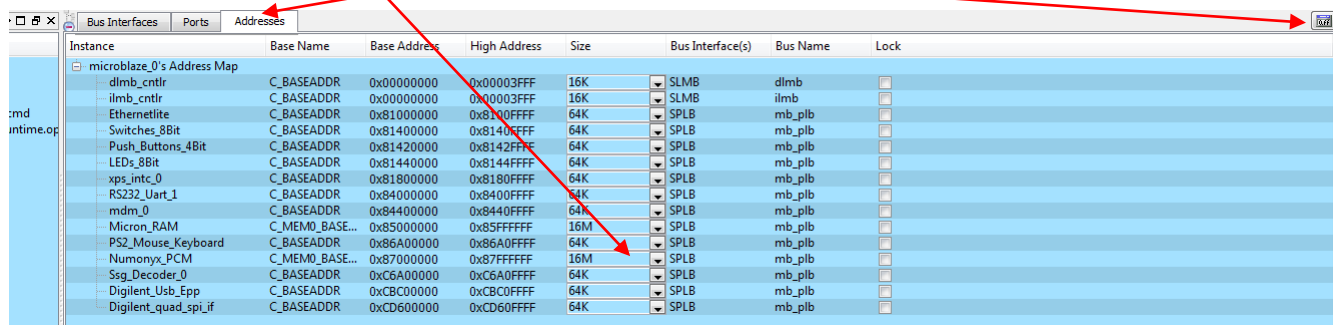

Figure 3. Changing the size of the Numonyx\_PCM Flash memory
1. In System Assembly View, click on the Addresses Tab and change the size of the Numonyx\_PCM memory to the appropriate size. See Figure 3 below.